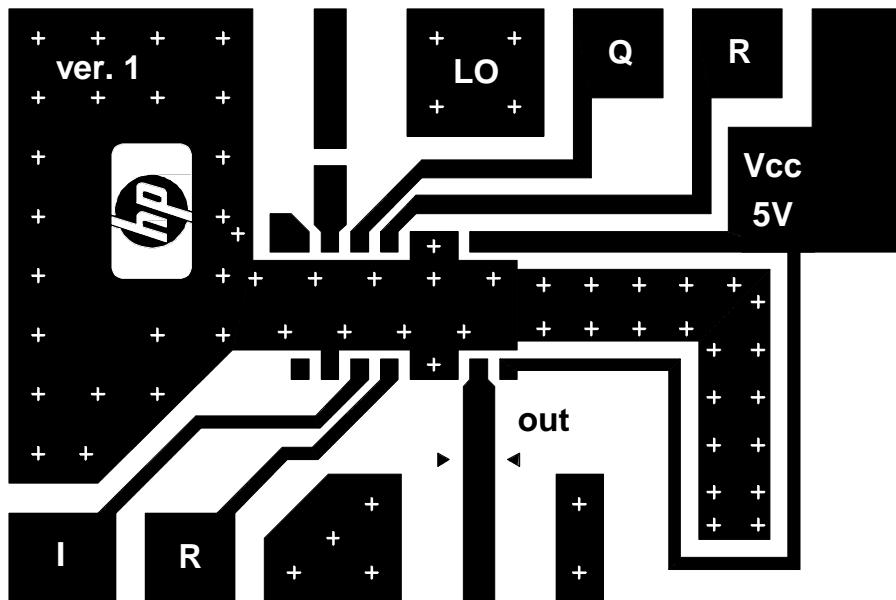

Figure 5. HPMX-2003/5 demonstration circuit board layout. Finished size: 1" x 1.5 " x 1/32".
7) Figure 5, below, shows a scale layout of the demonstration circuit board. The board should be made from 1/32" thick, FR-4 type fiberglass circuit board with 1 oz. copper on both sides. Only the top side of the board is shown. The bottom side remains unetched and is used as a ground plane. Tin/lead
Use plenty of plated-through via holes in the ground areas for best performance. The via hole locations are indicated by white "+" marks in figure 5.